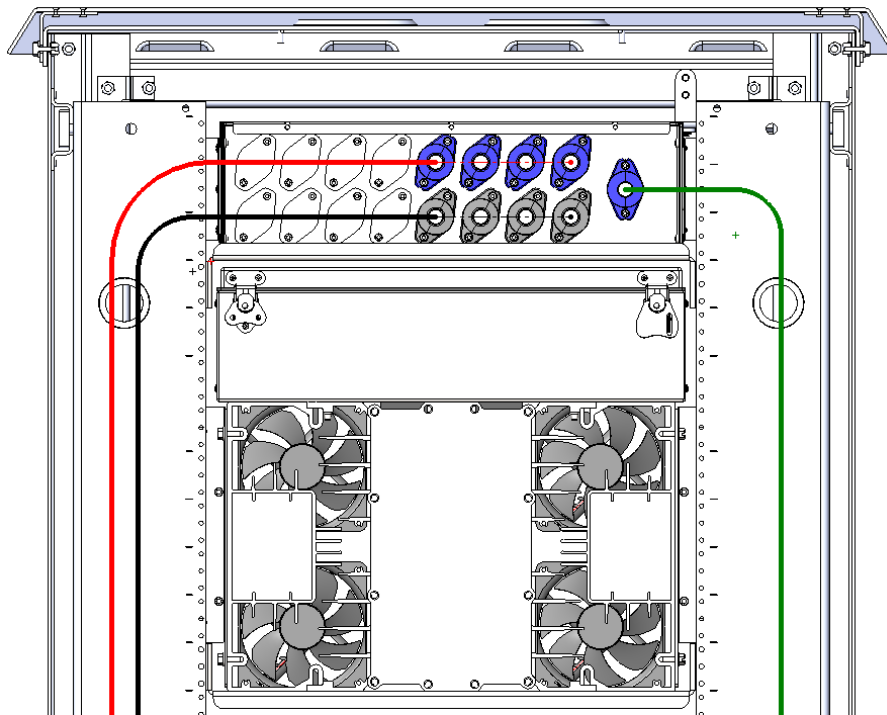

FIGURE 21: REAR VIEW OF CUSTOMER CONNECTIONS TO PRIMARY (INPUT) ON JUNCTION BOX
- Connect customer Primary (Input) cables and ground cables to Rebling connectors on rear of Junction Box shown in Figure 21.